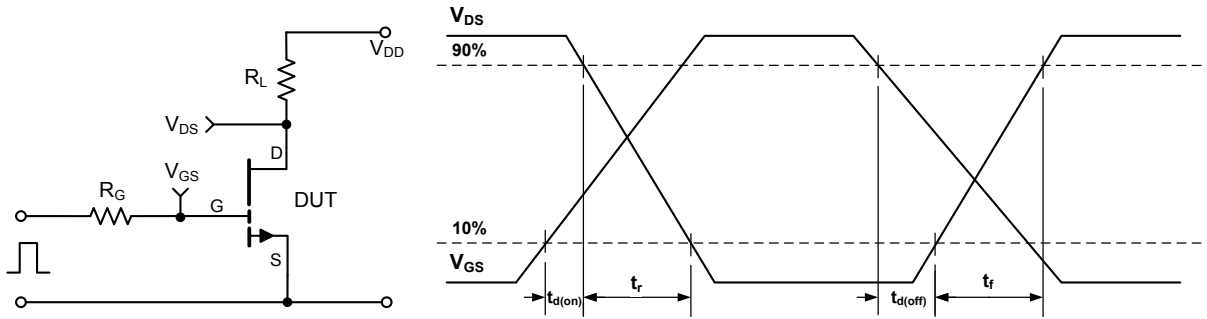

Figure 12: GS66508B switching time test circuit and waveforms
(5) See Figure 12 for timing test circuit diagram and definition waveforms